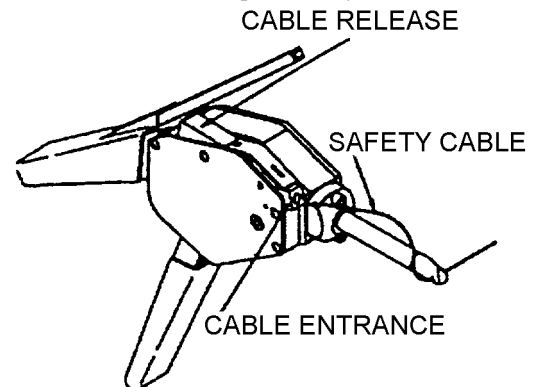

Figure 30. Pre-Set Tension Safety Cable Application Tool
f. Insert the free end of the cable through the tool nose and slide the tool along the cable to the component being secured (Figure 30).
51. The Pre-Set Tension Tool (Figure 30). Insert the free end of the cable into the cable entrance and continue to push the cable into the cavity. When the free end of the cable appears at the bottom of the tool, grip the cable and pull the slack from the cable by repeatedly closing the tool handle allowing the handle to open fully before closing again. When all slack is removed, from